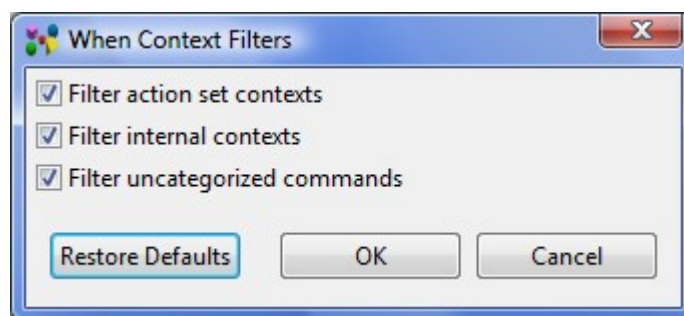

Figure 3. When Context Filters
- **Filters...** button - filter out a list of commands in the table according to the category of IDA-STEP contexts. The **When Context Filters** window appears after the filter button is pressed (see Figure 3):